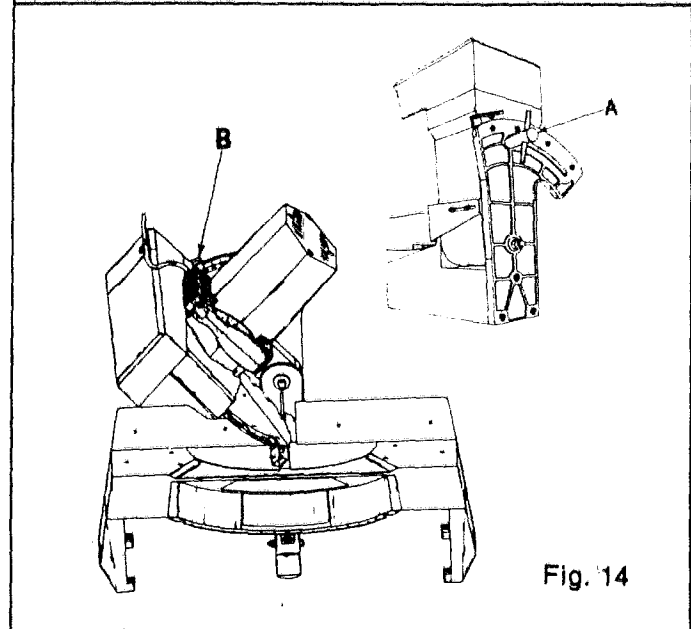

Fig. 14
Your miter saw is also capable of making bevel cuts from 45° to 90°. To operate bevel post, loosen lock screw (A) as shown in Fig. 14 and pivot saw arm until the pointer (B) is on desired bevel angle. Tighten lock screw securely. Note: While adjusting bevel post, care should be taken to hold saw arm and saw head securely to prevent sudden fall to the 45° position and possibly damaging your saw.